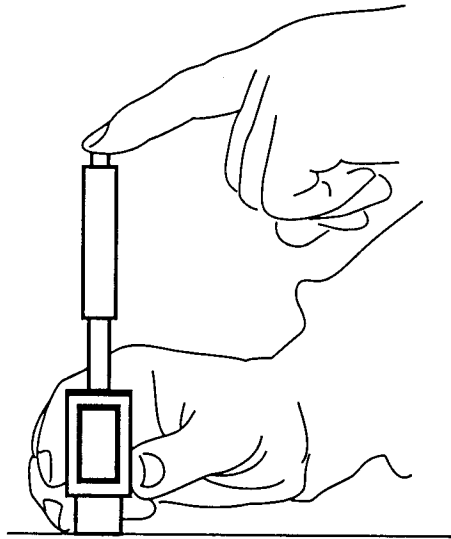

Figure 5.7
3. Keeping the tester steady, press the tester release button. (See figure 5.7)